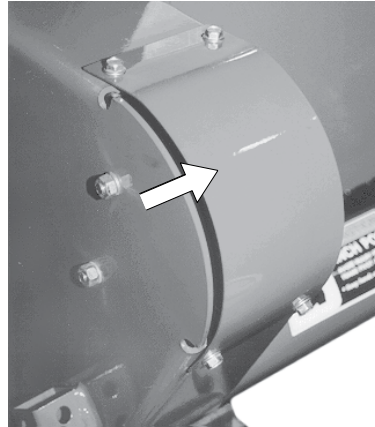
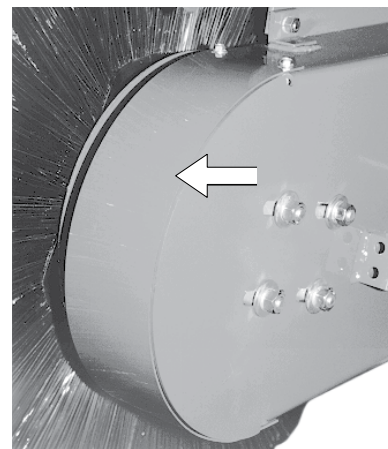

figure 1
figure 2
2. Remove front (figure 1) and rear (figure 2) chain shields.